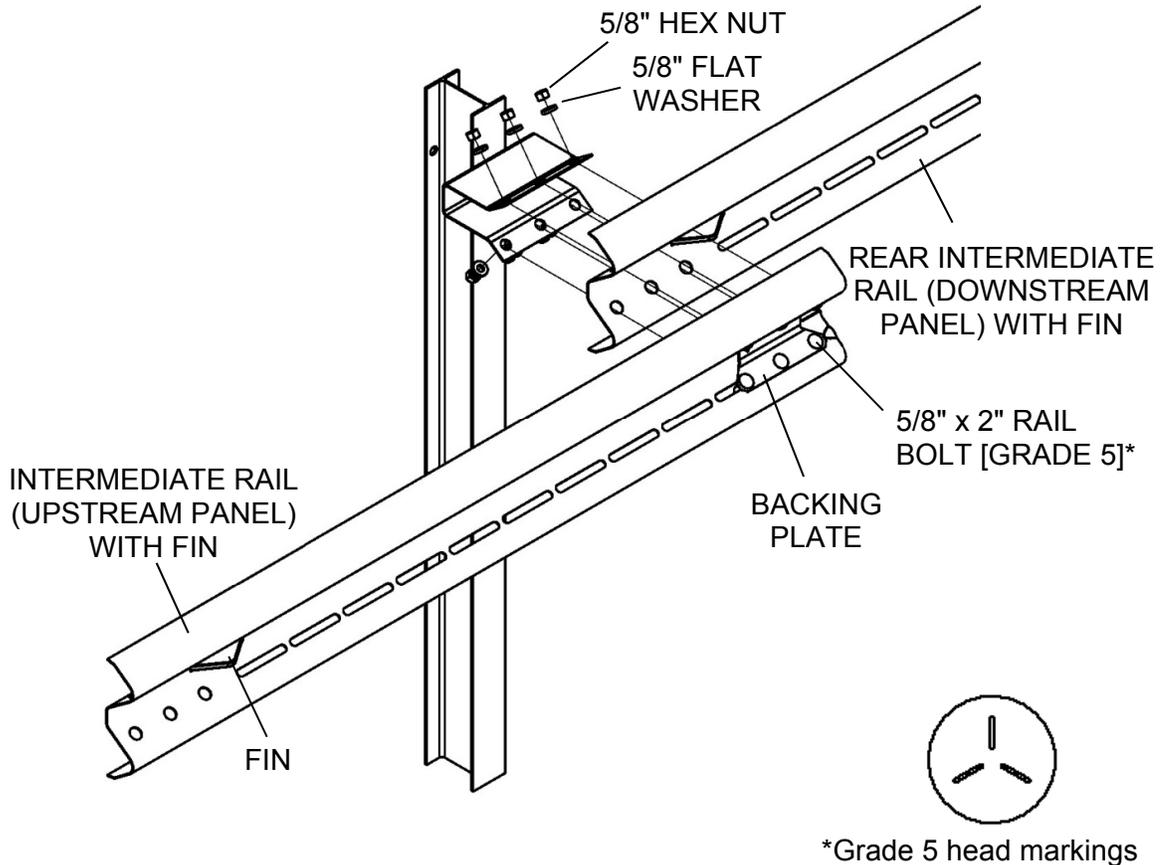

Figure 15 - Rail Attachment
- 5.2 Working from the rear Intermediate Rail, attach the next Intermediate Rail to the system using (6) 5/8" x 2" rail bolts [Grade 5], (6) 5/8" flat washers [thick], (6) 5/8" hex nuts [Grade 5] and (1) Backing Plate as shown. Be sure to overlap the panels as shown in Figure 15; the upstream panel is on top of the downstream panel.
Note: The Backing Plate needs to lie between the rail bolt heads and the Intermediate Rail (Figure 15).